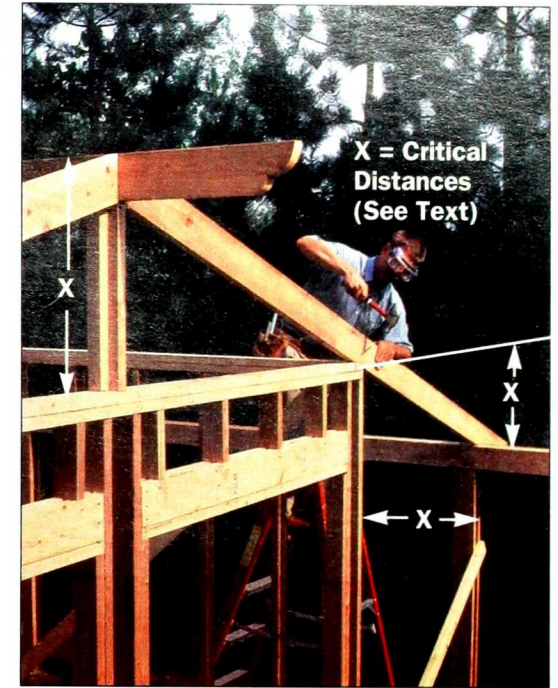

Figure 12: Nail rafters in place, installing the gable-end ones first. Space rafters every 2 feet and toenail them to beam and wall with 16d nails.
- Secure the two rafters at each gable end first, using 16d nails, then install the remaining roof rafters in opposing pairs (Figure 12).